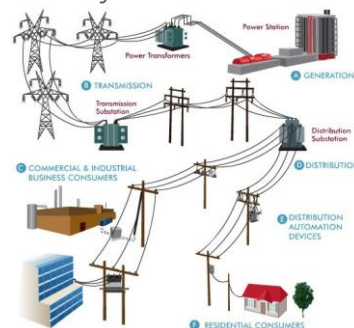

Figure 4: National Grid System
• **Figure 4** shows a simple illustration of the National Grid System.